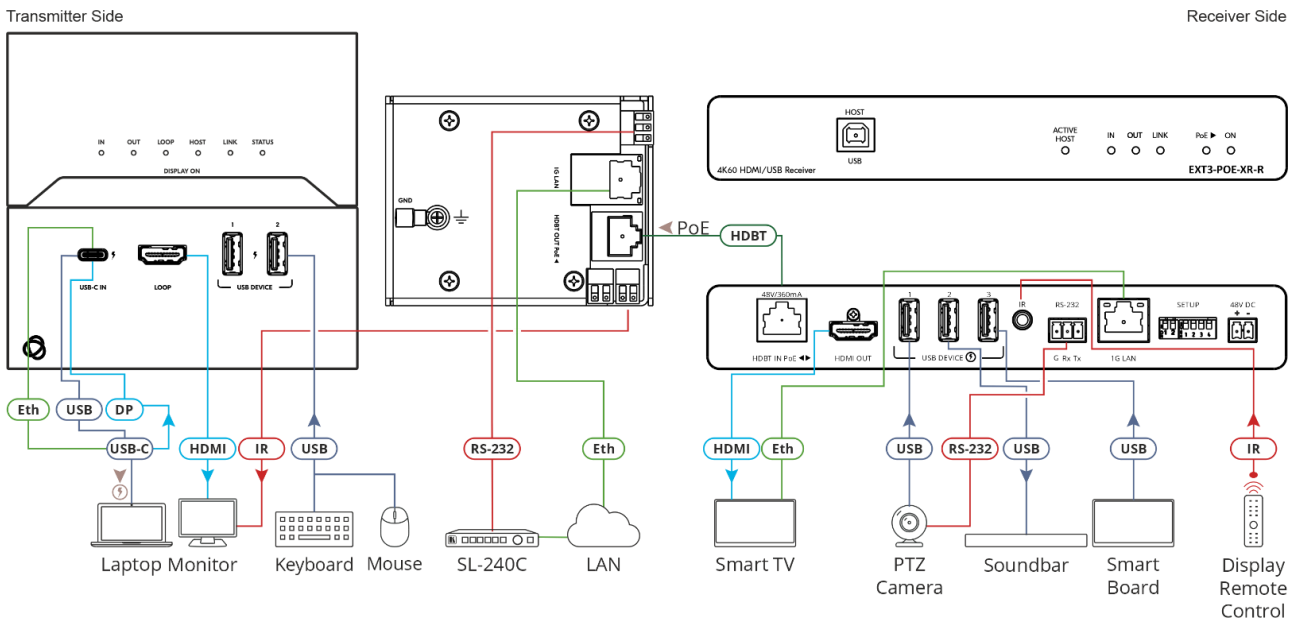

Figure 4: Connecting EXT3-C-WP-XR-T to EXT3-POE-XR-R
In the example in Figure 4, the connected USB devices, such as the mic or soundbar, are hosted via the transmitter's USB-C port (1). In this configuration, the receiver's host USB-B port is inactive.
To connect **EXT3-C-WP-XR-T** to **EXT3-POE-XR-R** as illustrated in the example in Figure 4:
10. Connect the power adapter to **EXT3-C-WP-XR-T** and to the mains electricity (not shown in Figure 4).
11. Connect the power adapter to **EXT3-POE-XR-R** and to the mains electricity (not shown in Figure 4).